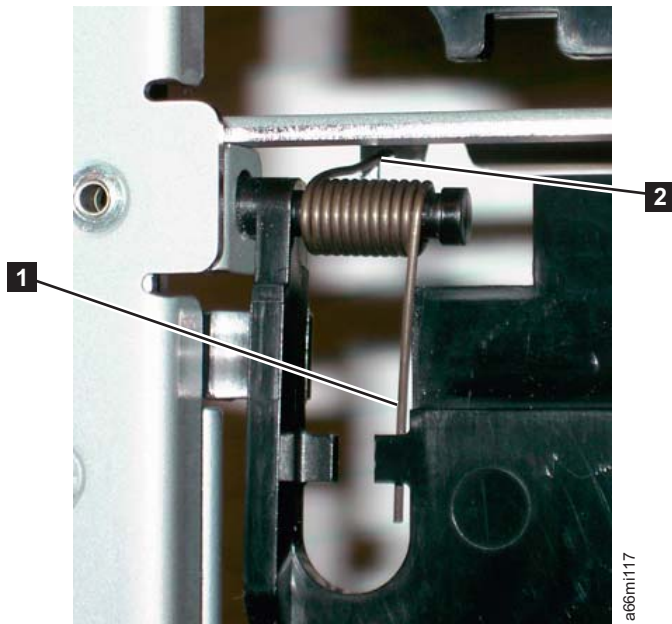

Figure 8-25. I/O Safety Flap Front Spring Wire
2. Unhook the front spring wire (**1** in Figure 8-25 on page 8-30) from the tab on the I/O flap.